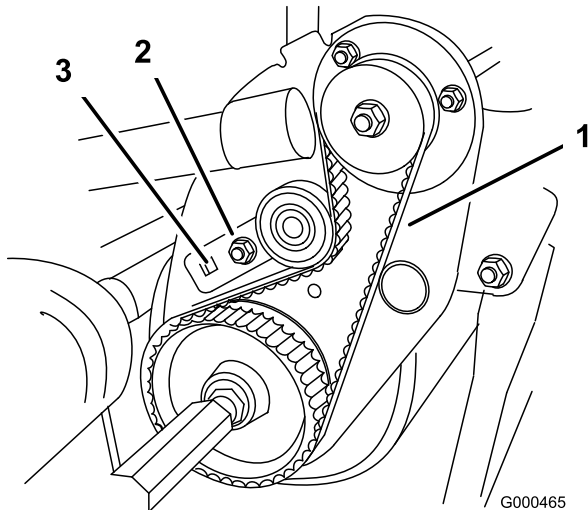

Figure 41
B. Using a 3/8 inch drive torque wrench, rotate the idler bracket with 75-85 in.-lb. of torque to set the belt tension (Figure 41). While holding the torque wrench setting, tighten the idler bracket mounting bolt (The tang washer is installed to prevent the belt from slipping). Do not over-tension the belt.